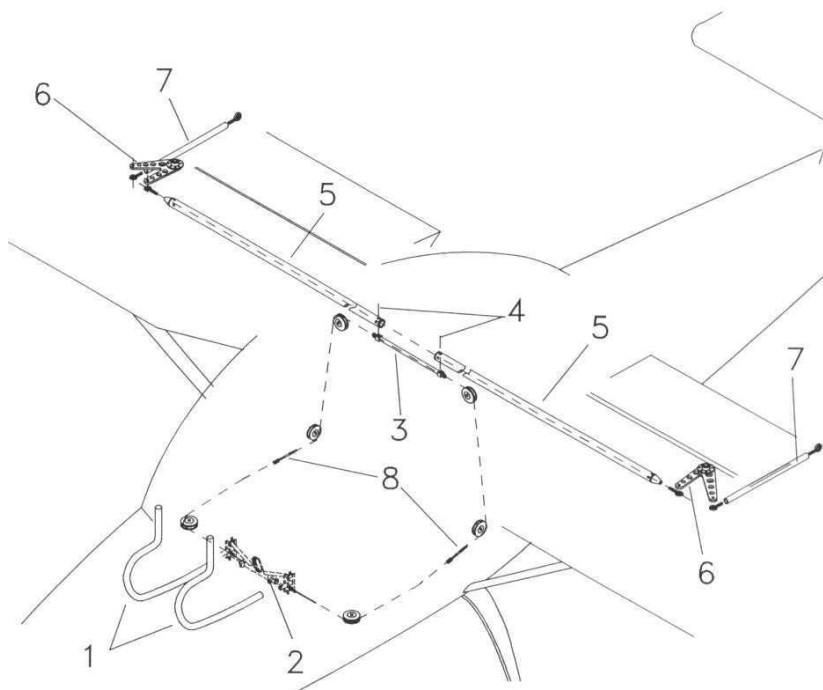

Figure 4-4 Aileron control
- ♦ Disconnect aileron control (see fig. 4-4) by removing pins (4) that connect the small bar (3) to the pushrods (5)